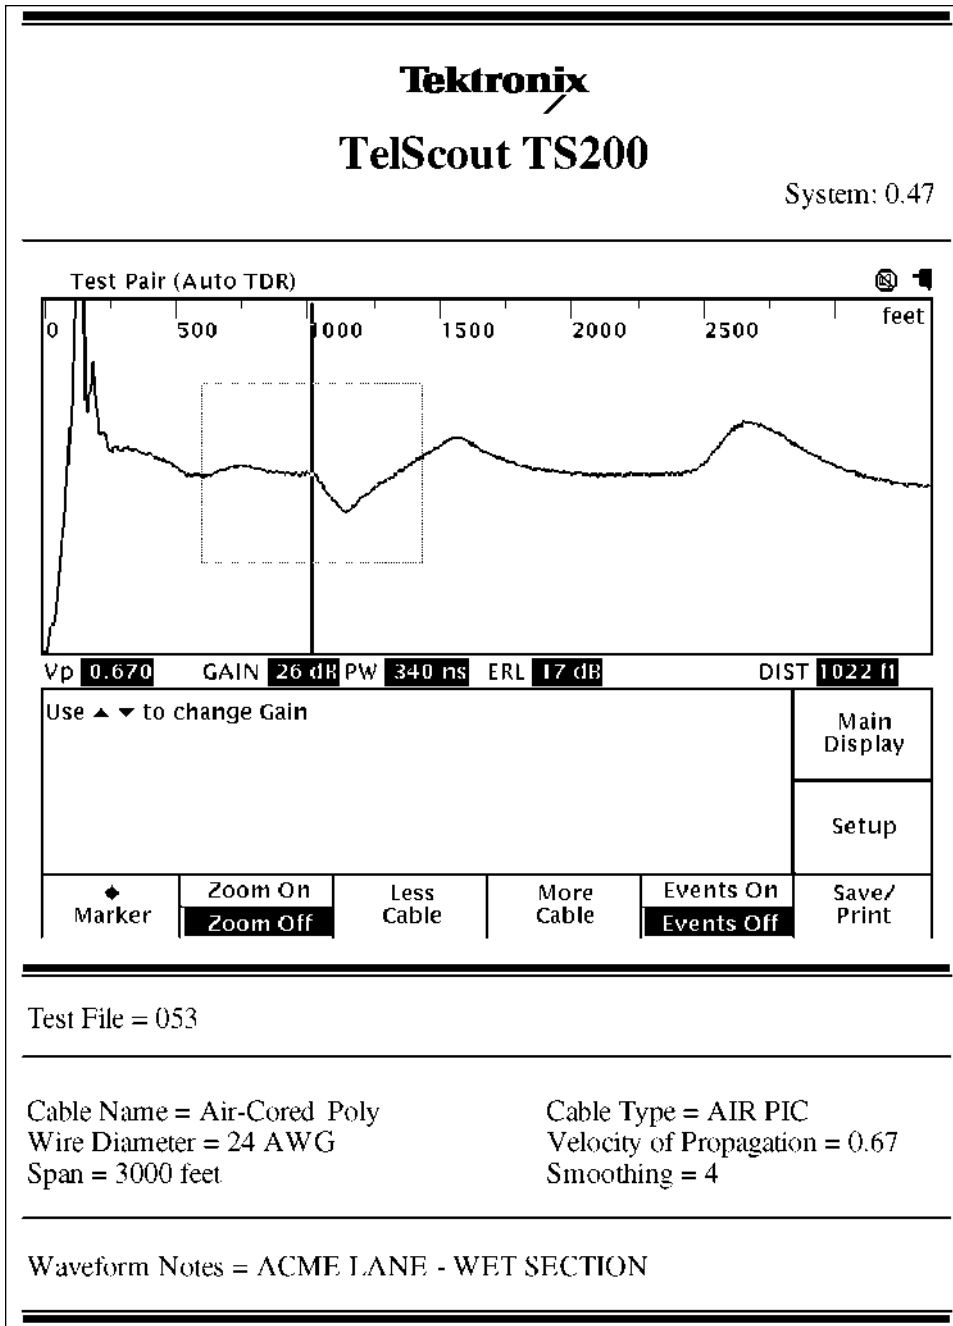

Figure 16-6. Sample printout.
Step 9. Press Print Saved or Print (see Figure 16-6).